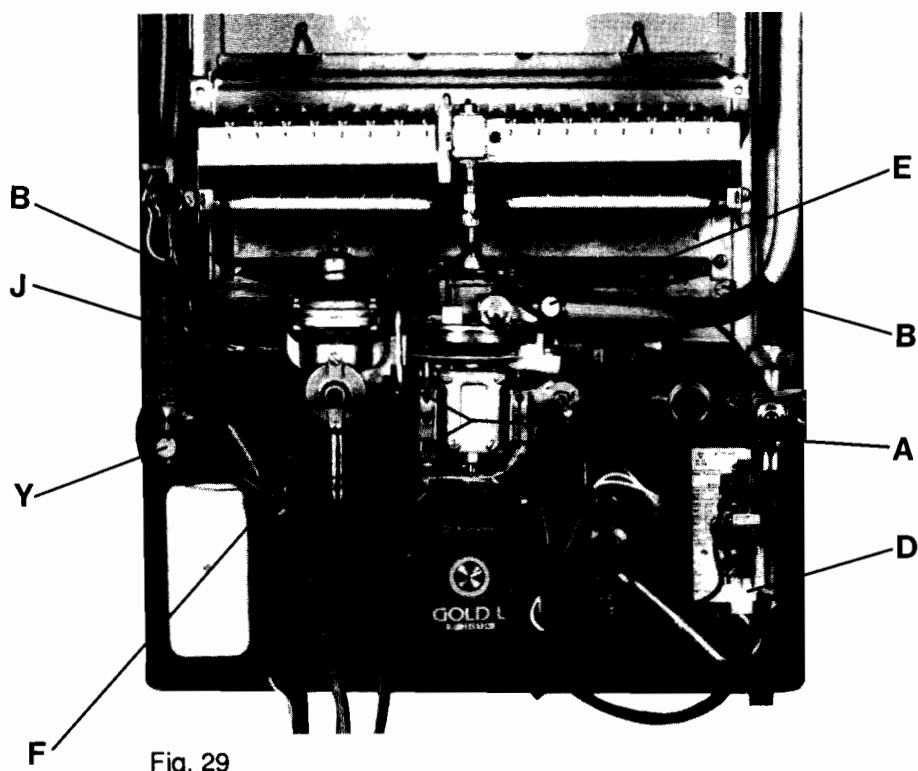

Fig. 29
**Section 18 : To remove the gas control assembly (Fig. 29)**